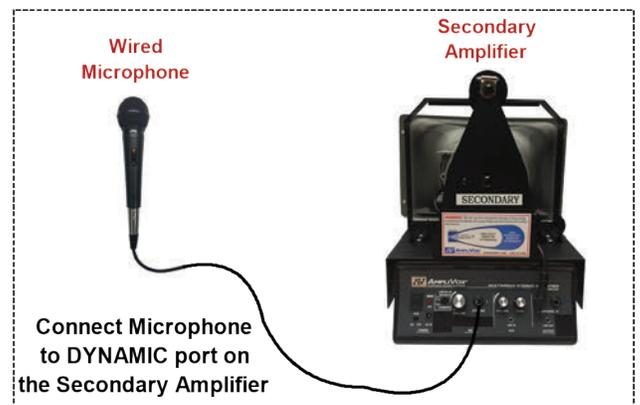

Figure 5
3. Secondary Amplifier with wired microphone (*See Figure 5*)